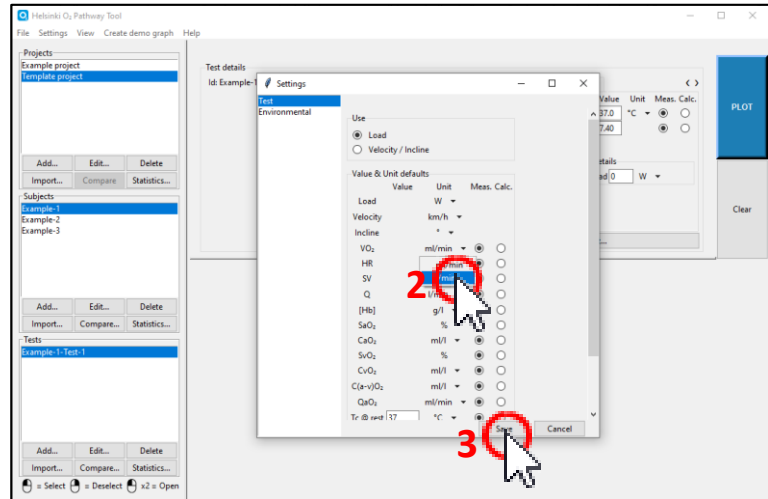

Figure 56
2. Change the incorrect unit by clicking the corresponding parameter's drop-down menu button (figure 56).
3. Save changes by clicking the "Save" button (figure 56).